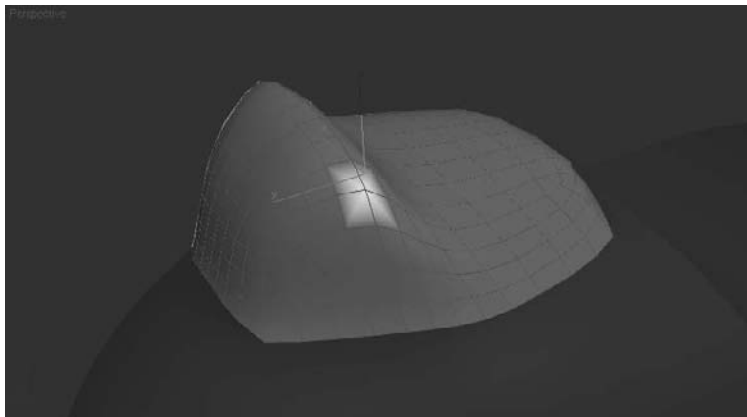

Figure 7.99
9. In a viewport, select the rocket, enter into Polygon Selection mode (by selecting the Editable Poly entry in the Modifier Stack in the Modify panel), and select the polygons that make up the Control panel, as shown in highlight in Figure 7.99. Drag the Control\_Panel material onto the selected polygons to assign the material.